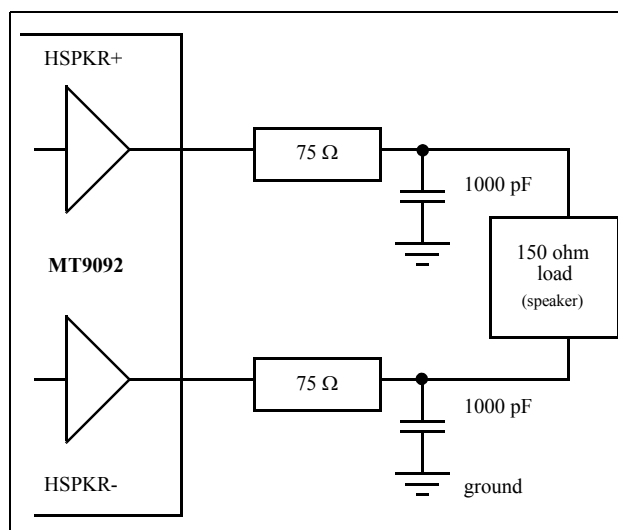

Figure 5 - Handset Speaker Driver
- The handset speaker outputs (receiver), pins HSPKR+/HSPKR-. This internally compensated, fully differential output driver is capable of driving the load shown in Figure 5. This output is enabled/disabled by the HSPKR EN bit residing in the Transducer Control Register (address 0Eh). The nominal handset receive path gain may be adjusted to either -12.3 dB (suggested for μ -Law) or -9.7 dB (suggested for A-Law). Control of this gain is provided by the RxA/u control bit (General Control Register, address 0Fh). This gain adjustment is in addition to the programmable gain provided by the receive filter and DSP.